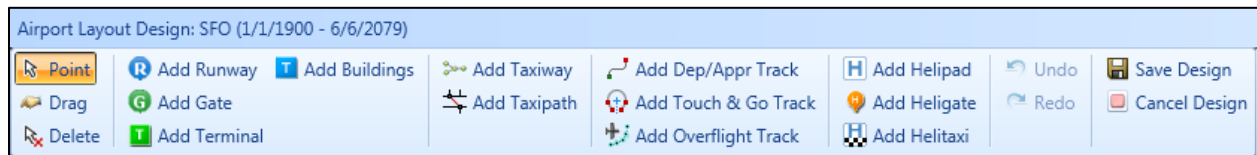

Figure 8-15 Airport Layout Design Toolbar
4. The *Airport Layout Design* toolbar is displayed (Figure 8-15), and a red border around the map indicates that the airport design mode is active.